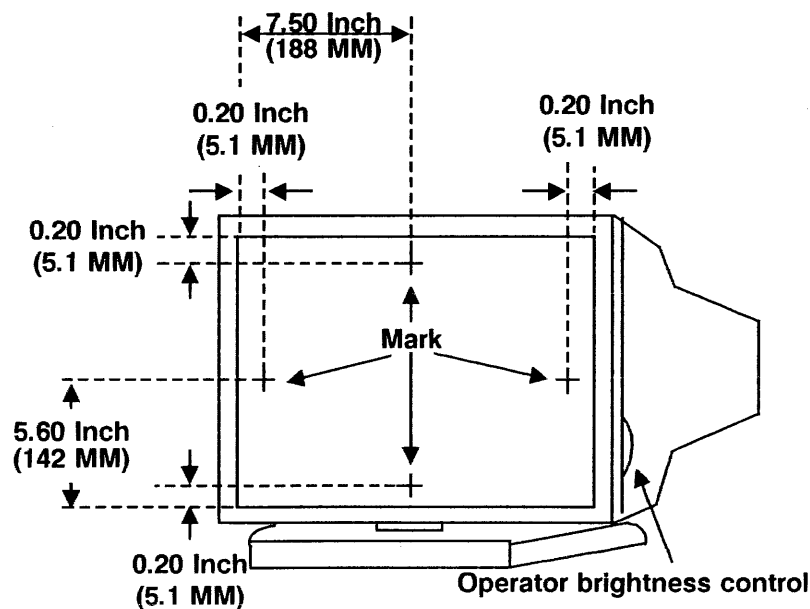

Figure 23. 19 Inch Display
- a. Use a felt tip pen to mark the face of the display as shown in Figure 23.